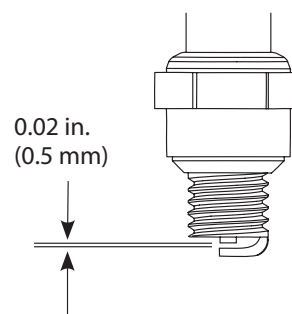

Fig.22
3. Replace cracked, fouled or dirty spark plug. Set the air gap at 0.02 in. (0.5 mm.) using a feeler gauge (Fig 22).